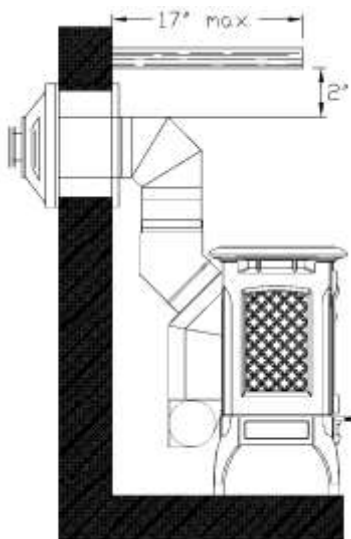

Figure 7 - Horizontal Vent Mantle Clearance
- The termination must meet the requirements outlined in Figures 7 - 9.
- The termination must meet the requirements outlined in Figures 7 - 9. Use a vinyl siding stand off when installing against vinyl siding.